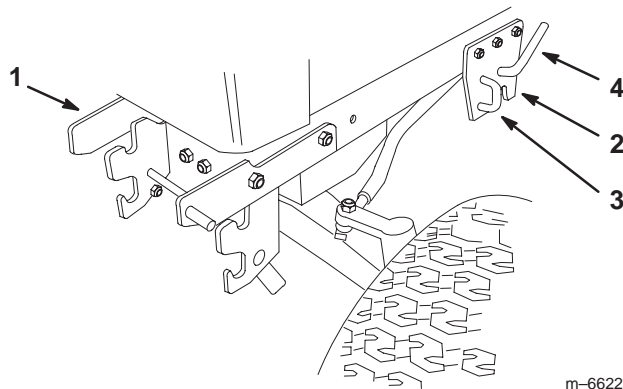

Figure 24
5. Open the mid-mount hitch by pulling out the J-pin and moving the lock handle rearward (Fig. 24).
11. If needed, remove the pulley box by pushing on the release lever and removing the pulley box (Fig. 24).